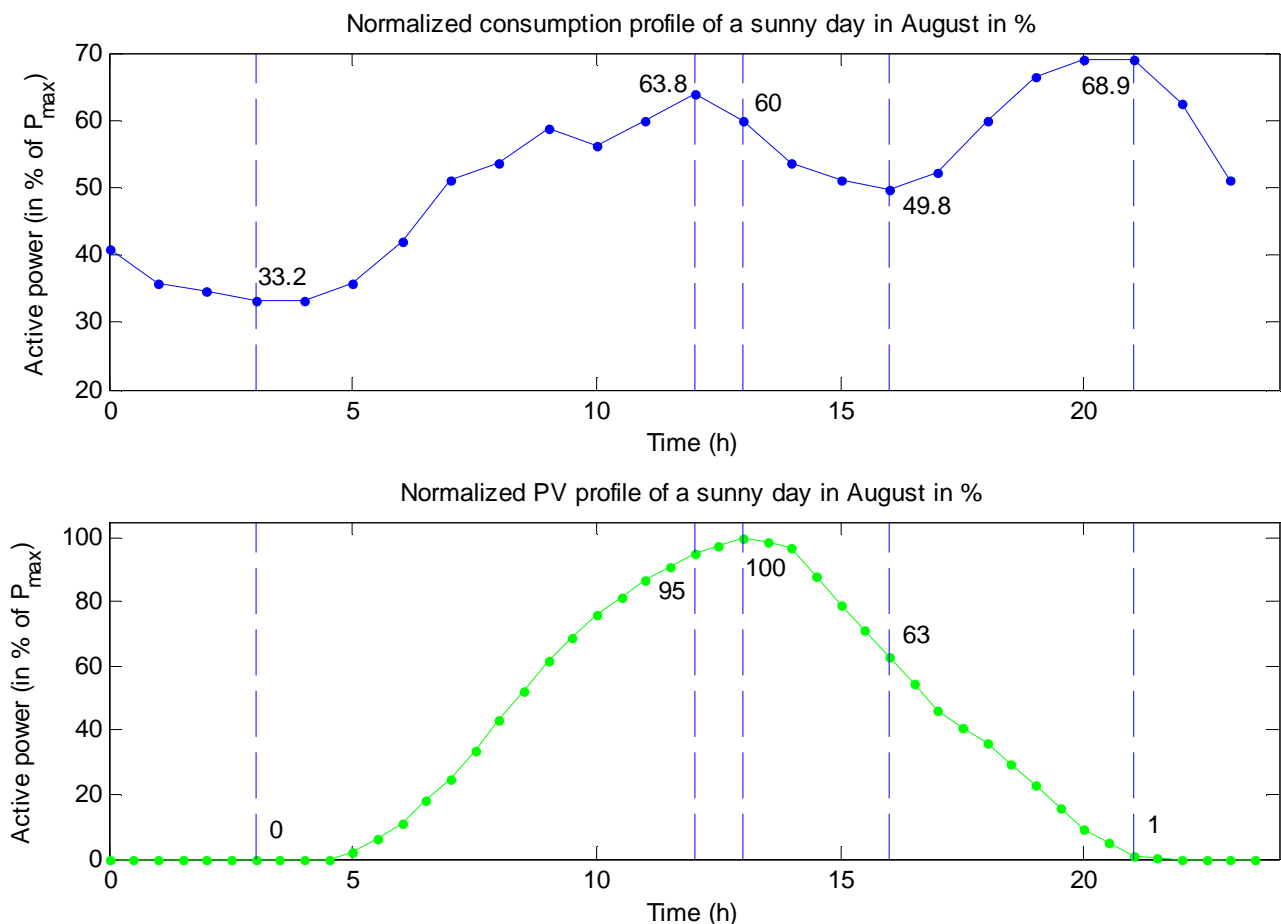

Figure 3: Residential normalized load curve and production curve during week day in summer.
Figure 3 gives the electrical scheme of the PREDIS distribution network with the different injection and consumption points.
- Load 6, 7, 9 and 10 have a maximal power of 1MW and are variable following the normalized profile of figure 3.
Depending on the scenario studied, one or several photovoltaic producers (maximal power of 4.7 MW) are connected to the distribution network. Their normalized profile is given by figure 3.
- *Question N°1.3: for each scenario detailed below, simulate the 5 step times pointed out in figure 3. For each step times, in case of constraints, try to find the best settings of the OLTC of the three HV/MV substations.*